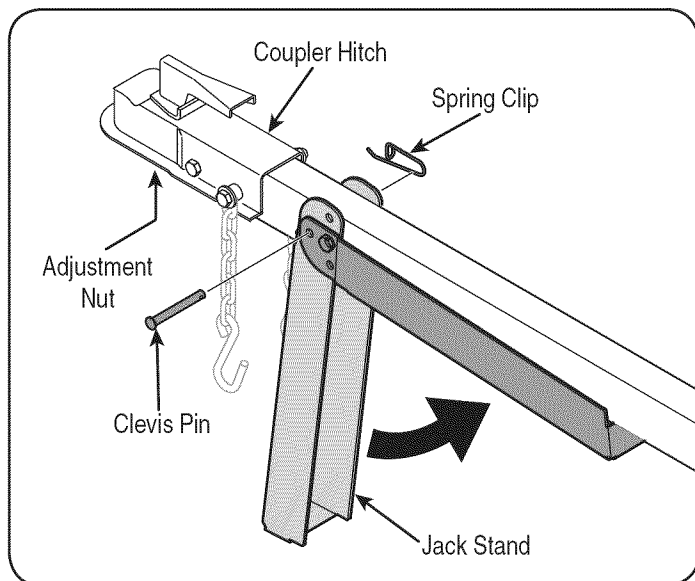

Figure 15
- Support the tongue and pivot the jack stand up against the tongue. See Figure 15.
- Secure the jack with the spring clip and clevis pin previously removed. See Figure 15.